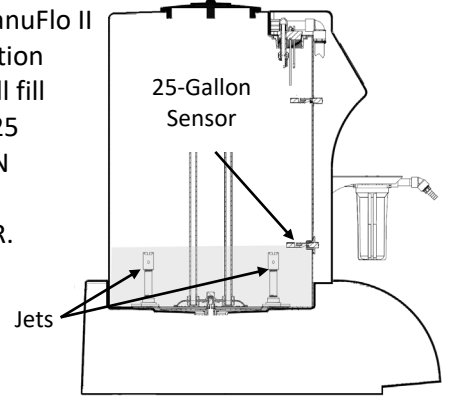

Figure 17
- Once the 25-Gallon Sensor is reached, the control panel will automatically step to the first RECIRCULATE Operation (figure 17). With your safety glasses on, lift the Access lid and check for correct spray ball operation. See figure 4, page 12, for the illustration of correct or incorrect spray ball operation.